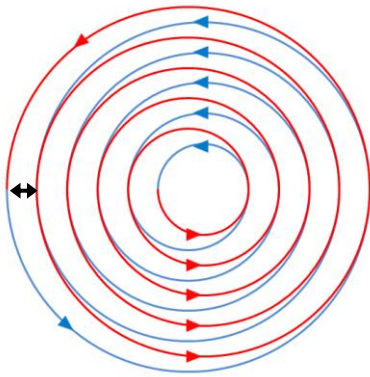

FIGURE 1A: Illustration of the spiral path used for drilling, following first the blue arrows, then the red ones.
- 1) The first step was a full double spiral, as shown in Figure 1A. This step was used to drill through all the central part of the hole.